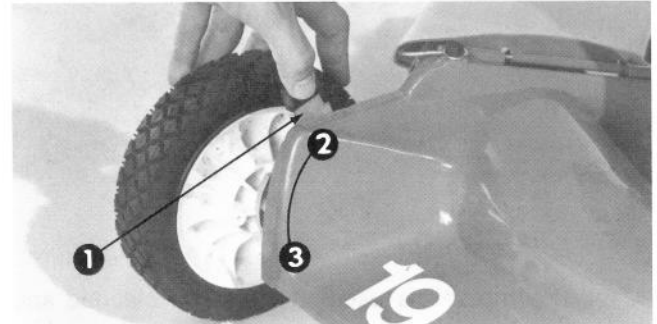

Figure 9
Height-of-Cut Adjuster (Fig. 9) — Height-of-cut
2. Place thumb against height-of-cut adjuster and fingers on outside of wheel (Fig. 9).